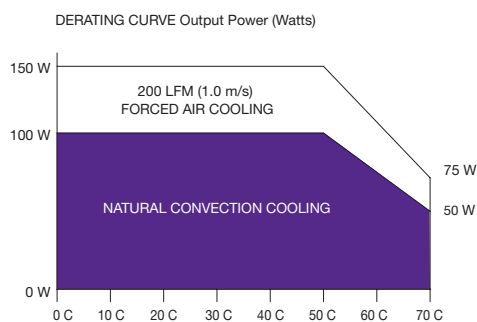

Figure 1: Derating Curve
- Free air convection. Maximum continuous output power not to exceed 100W. Refer to Figure 1 for the derating curve.